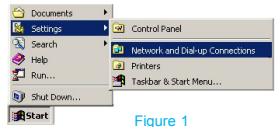

Figure 1
1. Click the **Start** button and select **Settings → Network and Dial-up Connections**. (Figure 1)